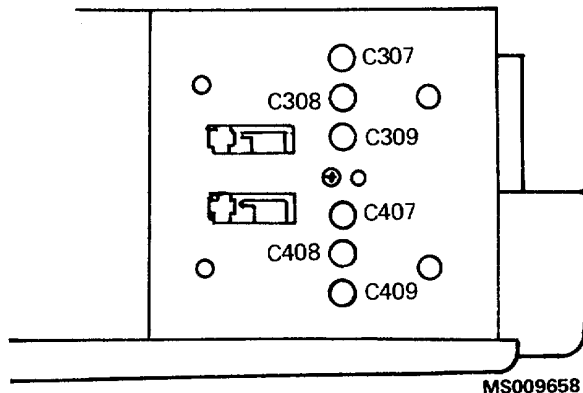

Figure 4-4. Location of attenuator compensation capacitors.
f. ADJUST-C407 (see Fig. 4-4) for no more than +0.2 division, -0.1 division, or a total of 0.2 division of aberration. (Use a low-capacitance screwdriver.)
i. ADJUST-C408 (see Fig. 4-4) for no more than +0.2 division, -0.1 division, or a total of 0.2 division of aberration.
l. ADJUST-C409 (see Fig. 4-4) for no more than +0.2 division, -0.1 division, or a total of 0.2 division of aberration.
f. ADJUST-C307 (see Fig. 4-4) for no more than +0.2 division, -0.1 division, or a total of 0.2 division of aberration.
i. ADJUST-C308 (see Fig. 4-4) for no more than +0.2 division, -0.1 division, or a total of 0.2 division of aberration.
l. ADJUST-C309 (see Fig. 4-4) for no more than +0.2 division, -0.1 division, or a total of 0.2 division of aberration.